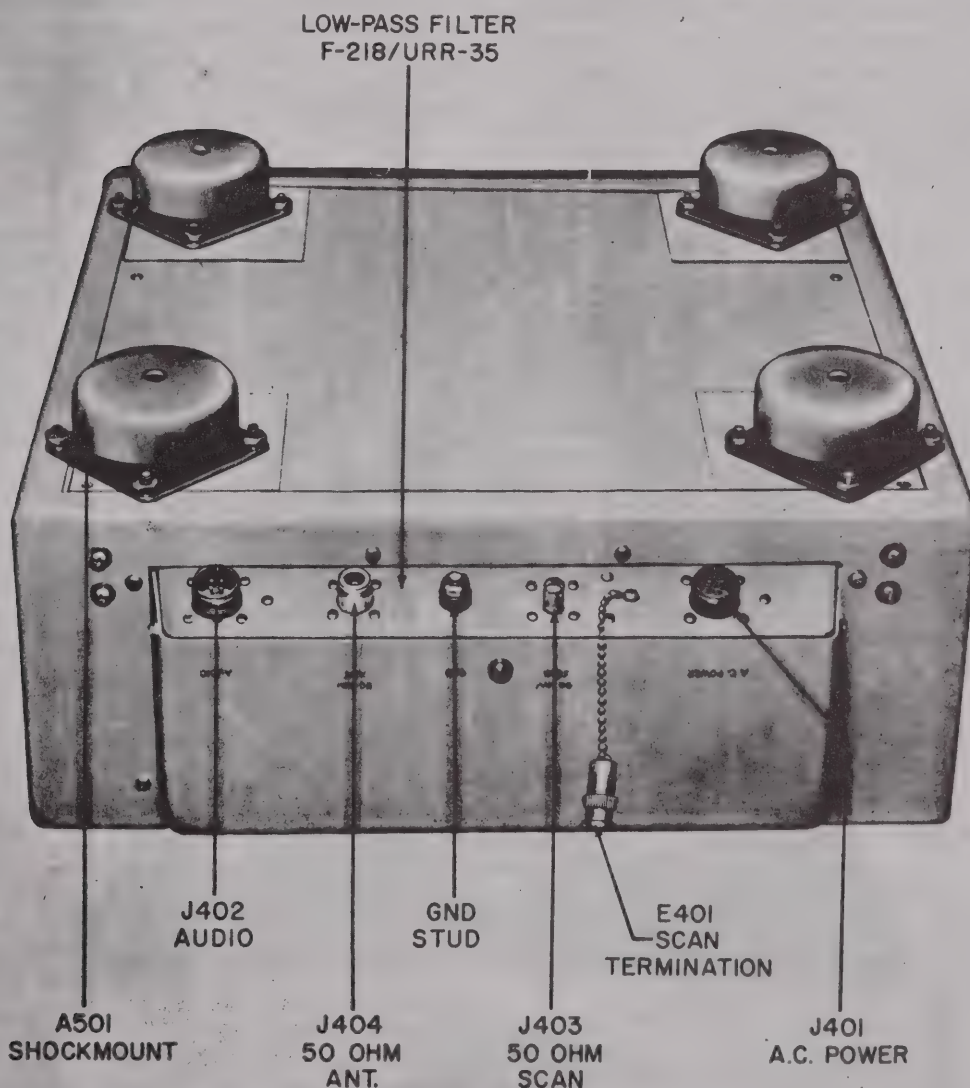

Figure 1-3. Radio Receiver R-482/URR-35, Rear View (Upside Down) Showing Low-Pass Filter F-218/URR-35
g. **LOW-PASS FILTER F-218/URR-35.**—The low-pass filter is shown in figure 1-3. It contains r-f noise-filter circuits for the audio output and power input circuits, and provides through connections from the receiver proper to the antenna input and scan-channel output circuit connectors. The filter parts are mounted on a base plate which is attached to the rear wall of the receiver cabinet by means of snap-slide fasteners located on the inside of the cabinet. The filter cover,
*When the scan channel is not in use, scan-channel termination E401 must be connected to the 50 OHM SCAN connector (J403); see figure 1-3: Mounted inside of the termination is a 47-ohm resistor which terminates the r-f cable between J403 and J201 in its approximate characteristic impedance, thus preventing radiation from this cable.